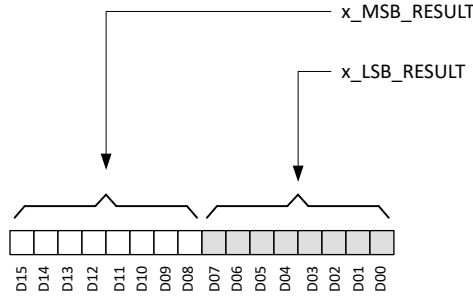

Figure 6-15. Magnetic Sensor Data Definition
The X, Y, and Z magnetic sensor data are stored in `x_MSB_RESULT` and `x_LSB_RESULT` registers. Figure 6-15 shows that each sensor output stored in a 16-bit 2's complement format in two 8-bit registers. The data can be retrieved as 16-bit format combining both MSB and LSB registers, or as 8-bit format through the MSB register.
- D_i is the data bit shown in Figure 6-15.